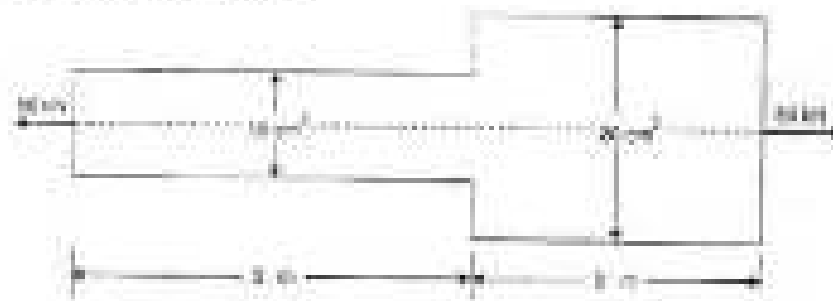

Fig. 5
- b) A tension bar 5 m long (Fig. 5) is made up of two parts, 3m of its length has a cross sectional area of 10 cm^2 while the remaining 2 m has a cross sectional area of 20 cm^2 . An axial load of 80 kN is gradually applied. Find the total strain energy produced in the bar of the same length and having the same volume when under the same load. Take $E = 2 \times 10^5 \text{ N/mm}^2$. [8]